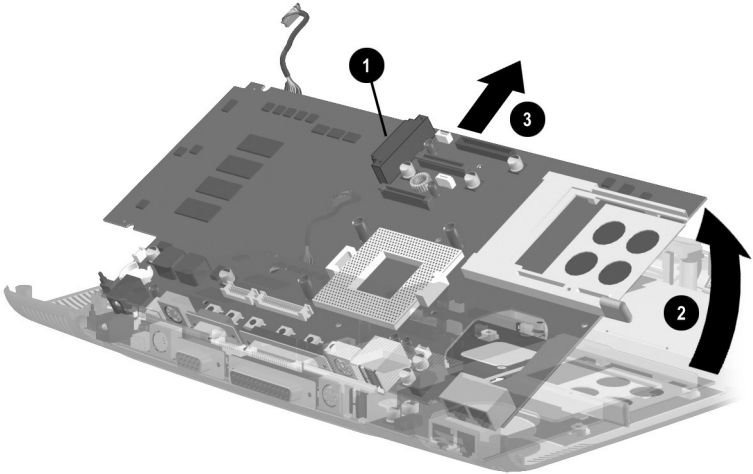

Figure 5-49. Removing the System Board
8. Use the optical drive connector ❶ to lift the front of the system board ❷ until it clears the base enclosure (Figure 5-49).
9. Slide the system board forward ❸ and remove it from the base enclosure.